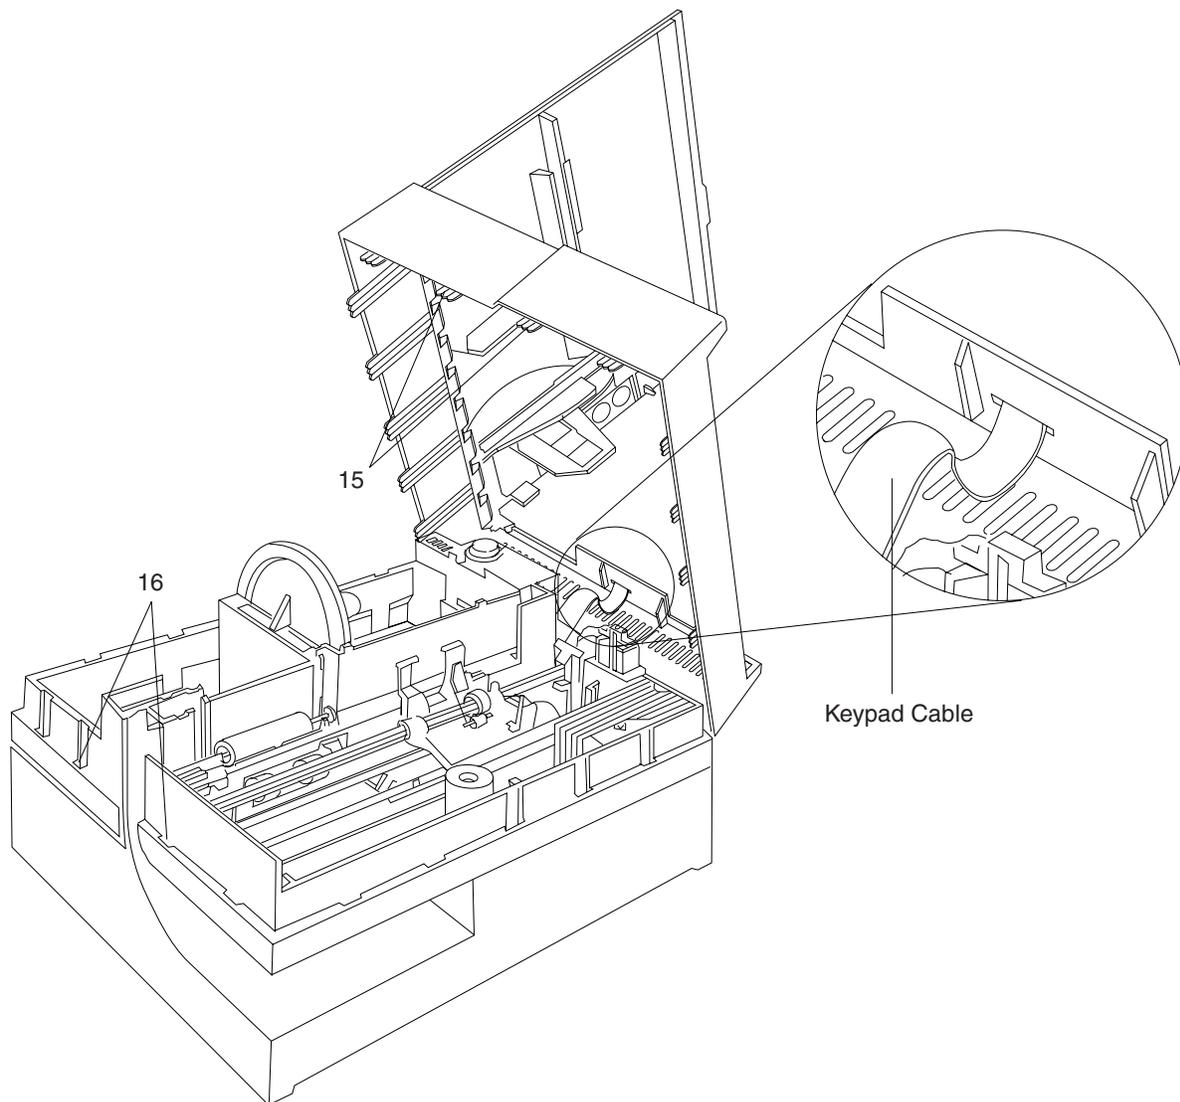

Figure E-20. Part 6. Installing the Top Cover
- 31** To reinstall the top cover assembly, set the assembly on the printer with the left end raised as shown in Figure E-20.
- 33** Lower the left side of the top cover while aligning the holding tabs (15) over the openings (16) on each side of the document insert slot.